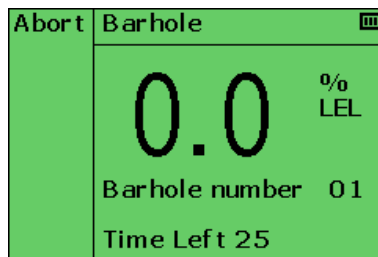
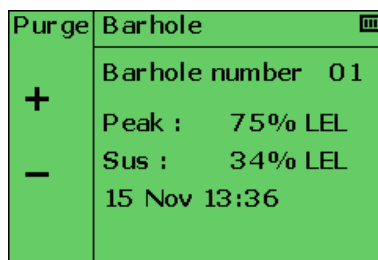

Figure 31: Barhole - Screen 4
Figure 32: Barhole - Screen 5
5. Once the barhole test is initiated, a timer will commence and the gas reading will be displayed (as shown in Figure 31: Barhole - Screen 4). After sampling is completed, the peak and sustained readings are displayed as shown in Figure 32: Barhole - Screen 5.